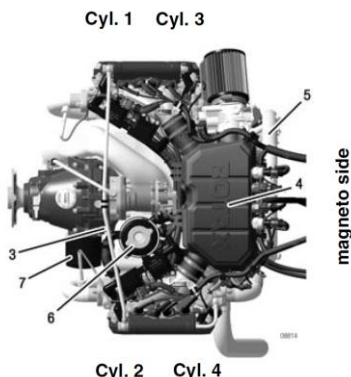

Figure 7-4 Engine top view
In Figure 7-4 the engine serial number (3), airbox (4), electric starter (5), expansion tank (6) and oil filter (7) arrangements are shown, together with cylinder numbers.